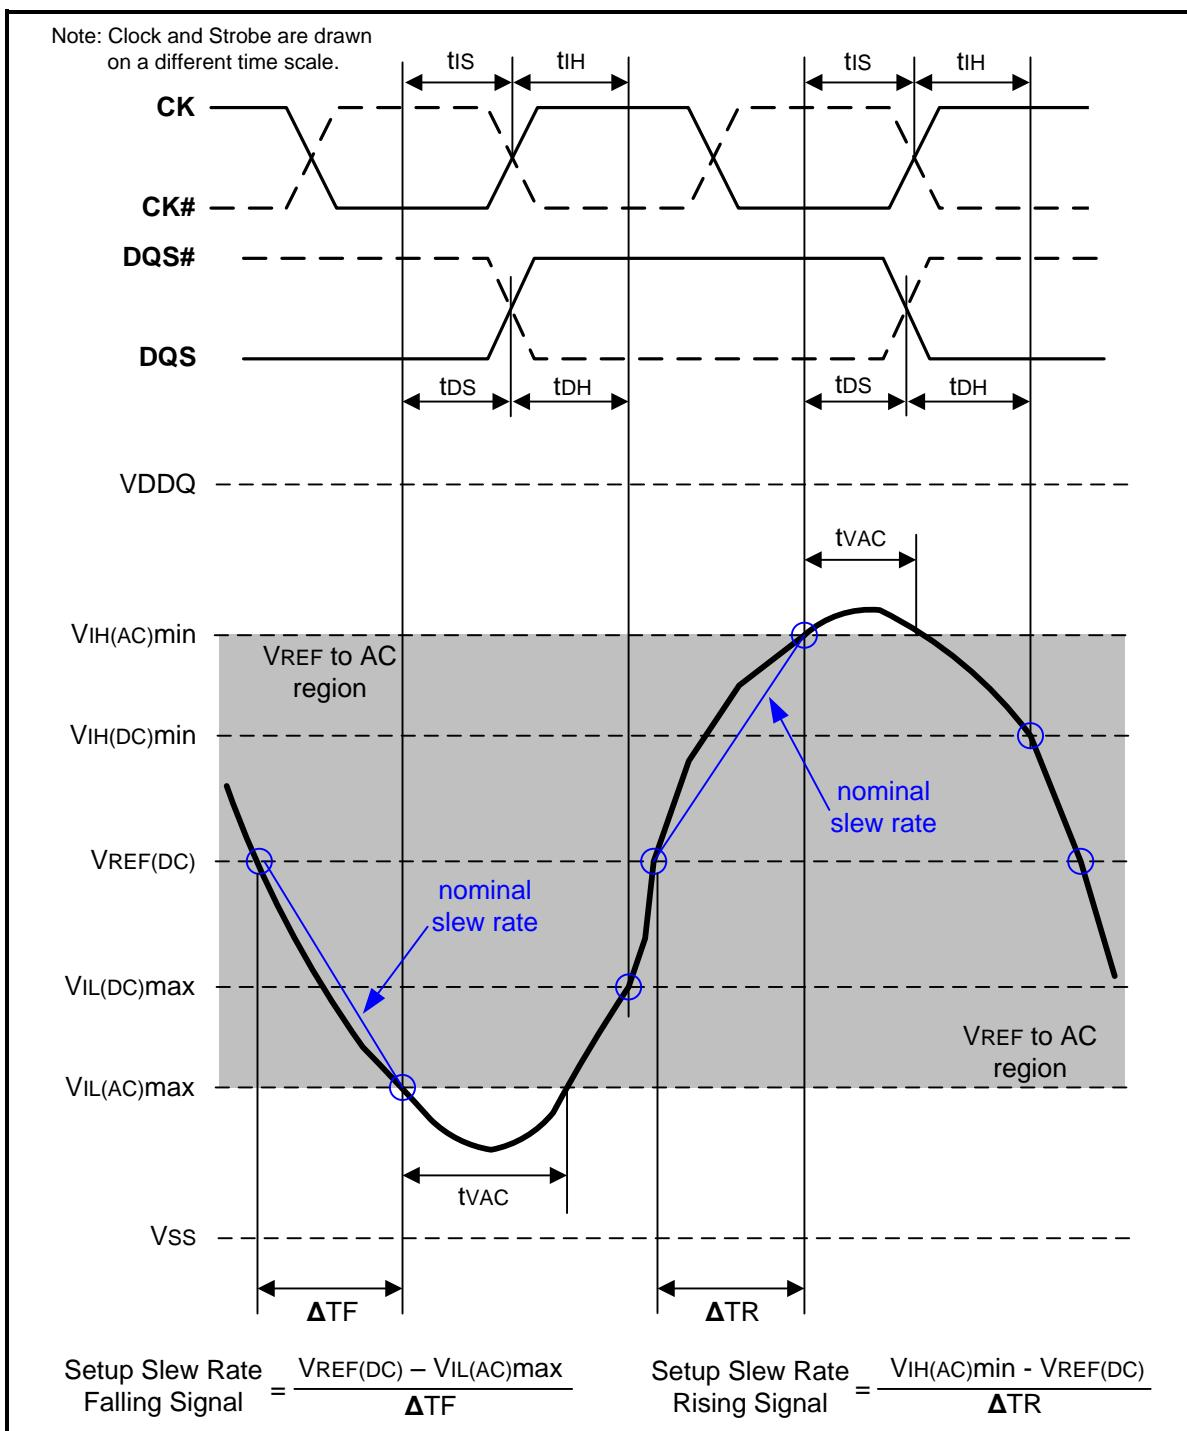
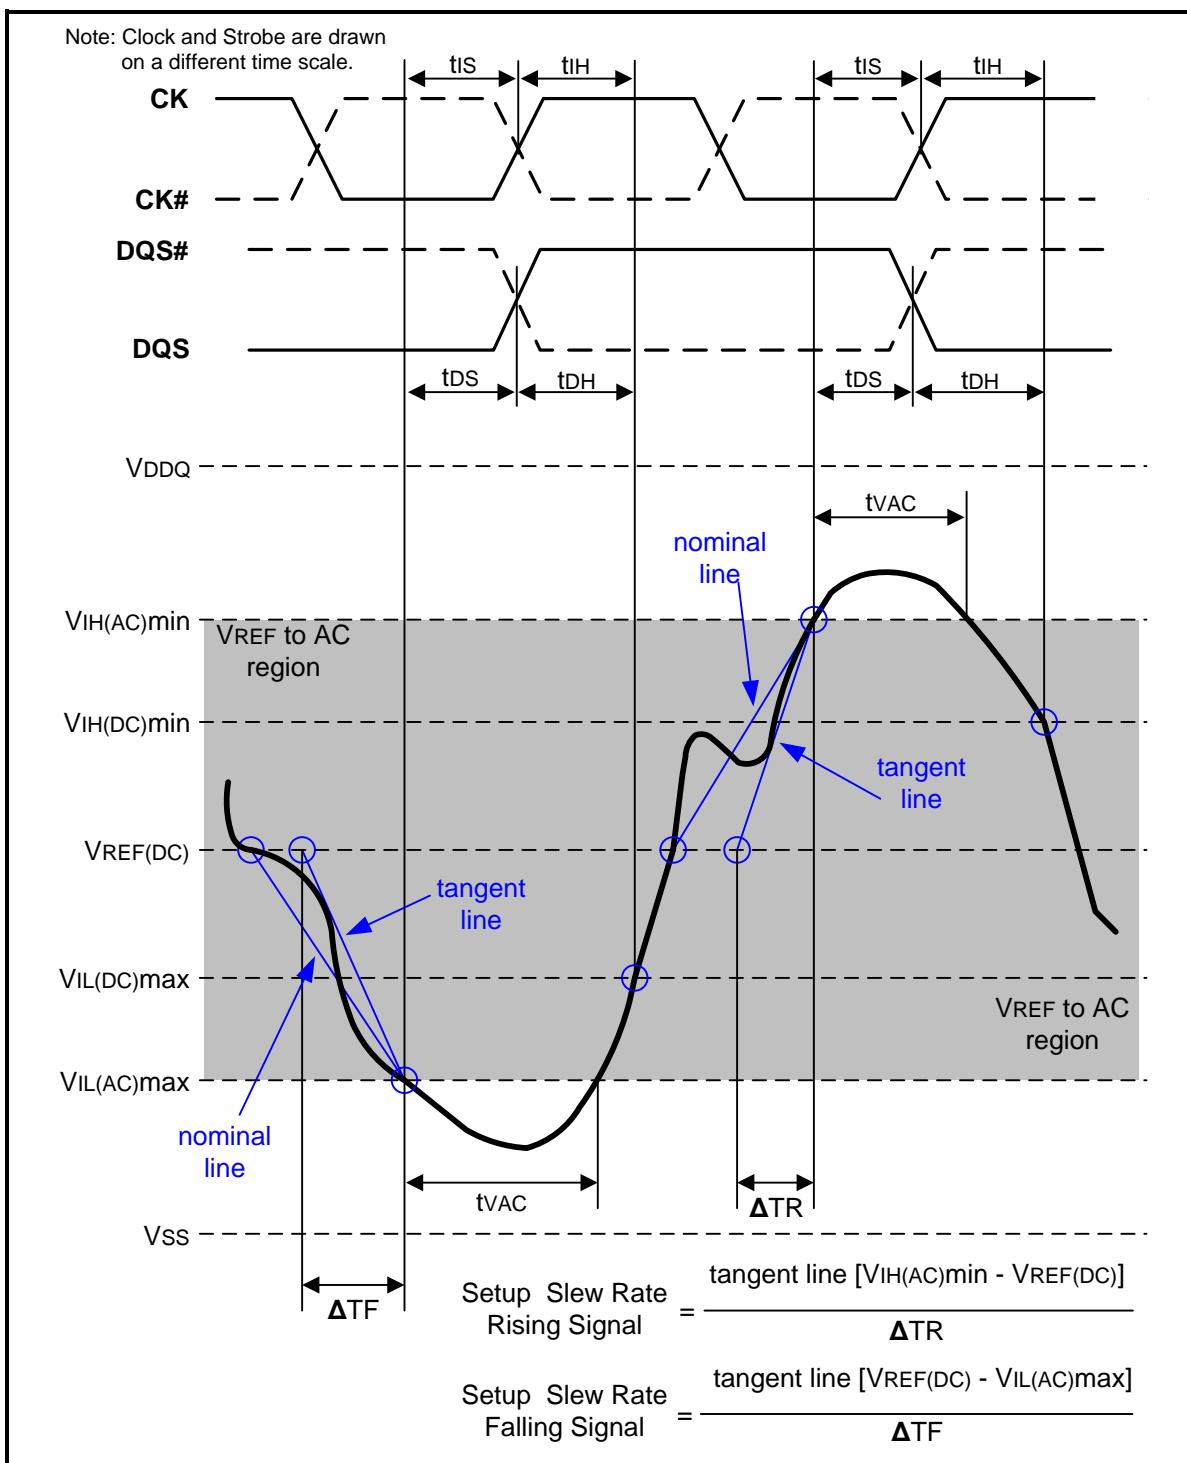

Figure 107 – Illustration of nominal slew rate and tVAC for setup time tDS (for DQ with respect to strobe) and tIS (for ADD/CMD with respect to clock)
Figure 109 – Illustration of tangent line for setup time t_{DS} (for DQ with respect to strobe) and t_{IS} (for ADD/CMD with respect to clock)
Setup (tIS) nominal slew rate for a rising signal is defined as the slew rate between the last crossing of VREF(DC) and the first crossing of VIH(AC)min. Setup (tIS) nominal slew rate for a falling signal is defined as the slew rate between the last crossing of VREF(DC) and the first crossing of VIL(AC)max. If the actual signal is always earlier than the nominal slew rate line between shaded 'VREF(DC) to AC region', use nominal slew rate for derating value (see Figure 107). If the actual signal is later than the nominal slew rate line anywhere between shaded 'VREF(DC) to AC region', the slew rate of a tangent line to the actual signal from the AC level to VREF(DC) level is used for derating value (see Figure 109).
Setup (tDS) nominal slew rate for a rising signal is defined as the slew rate between the last crossing of VREF(DC) and the first crossing of VIH(AC)min. Setup (tDS) nominal slew rate for a falling signal is defined as the slew rate between the last crossing of VREF(DC) and the first crossing of VIL(AC)max (see Figure 107). If the actual signal is always earlier than the nominal slew rate line between shaded 'VREF(DC) to AC region', use nominal slew rate for derating value. If the actual signal is later than the nominal slew rate line anywhere between shaded 'VREF(DC) to AC region', the slew rate of a tangent line to the actual signal from the AC level to VREF(DC) level is used for derating value (see Figure 109).